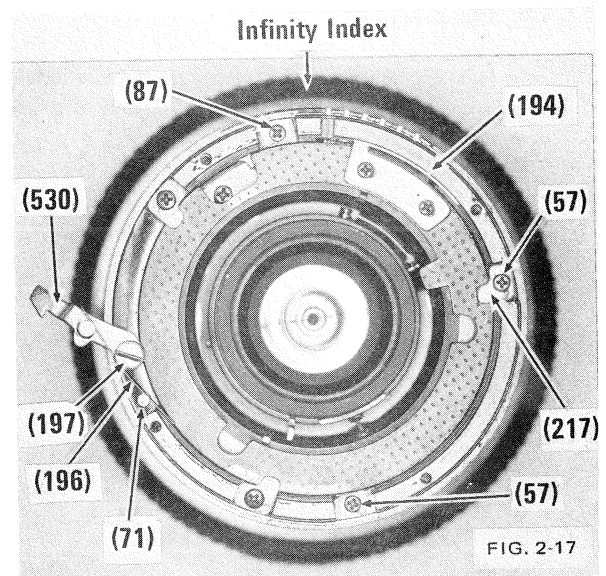

FIG. 2-17
- e) Position the lens so that the infinity index line is at the 12 o' clock position. Remove three screws (87) and change latch screw (197), that attaches EE change latch (530) to the lens, and threads into the outer helicoid. Fig. 2-17.
- c) Install change latch screw (197), EE change latch (530), and spring (219). Hook end of spring on spring post (71). Fig. 2-17.
- d) Install screws (87) in the mount frame at the 11:30, 2:30 (with cam retainer plate), and 5:30 positions. Fig. 2-17.